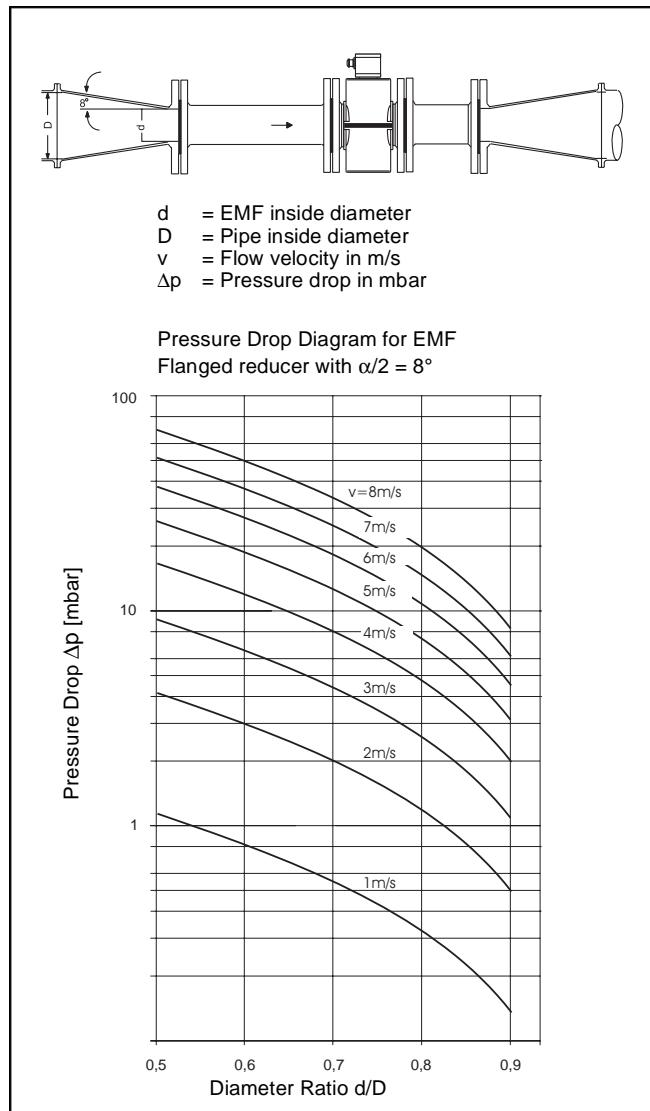

Fig.6 Nomograph for Pressure Drop Determinations
The flowmeter primary can readily be installed in larger pipeline sizes by utilizing reducers (e.g. flanged reducers DIN 28545). The pressure drop which results from the reduction can be determined from the Nomograph Fig. 6. The pressure drop is determined in the following manner:
3. Read the pressure drop on the Y-Axis in Fig. 6 at the intersection of the "Diameter Ratio  $d/D$ " x-axis value and the flow velocity line.